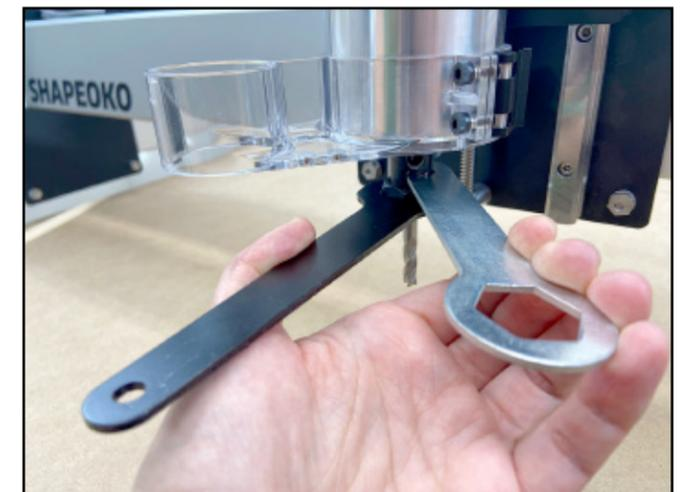

Figure 8-10
2. Use the 22mm collet nut wrench and the 13mm spindle wrench to tighten the collet nut securely. See **Figure 8-10**. Alternatively, you can press and hold the shaft lock while tightening with the 22mm collet nut wrench. **Never tighten the collet nut without an end mill inserted into the collet cone.**